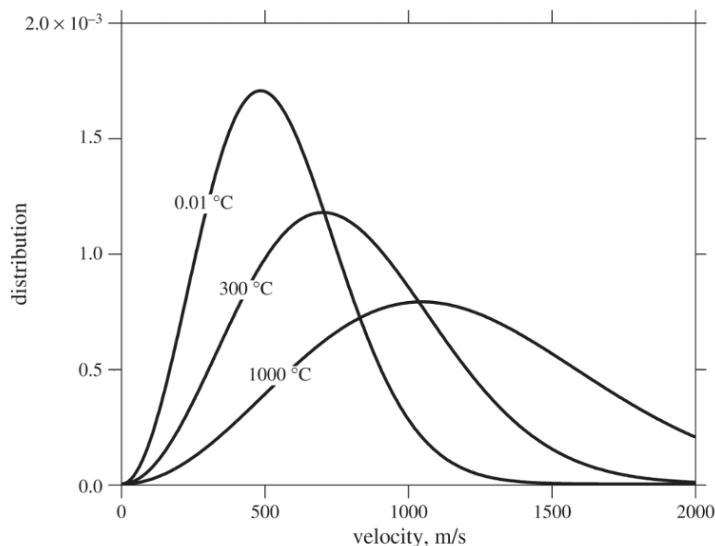

Fig. 9: The Maxwell-Boltzmann distribution of water molecule velocities at different temperatures.
- $f(v) dv$  is the fraction of molecules with speeds in the interval  $([v, v + dv])$ . Eq. 11 is plotted in Fig. 9 for water at different temperatures.
Fig. 9 shows that as temperature increases:
In Fig. 9, you can see that increasing temperature moves the peak to the right and lowers it while preserving the total area under the curve (the number of molecules).